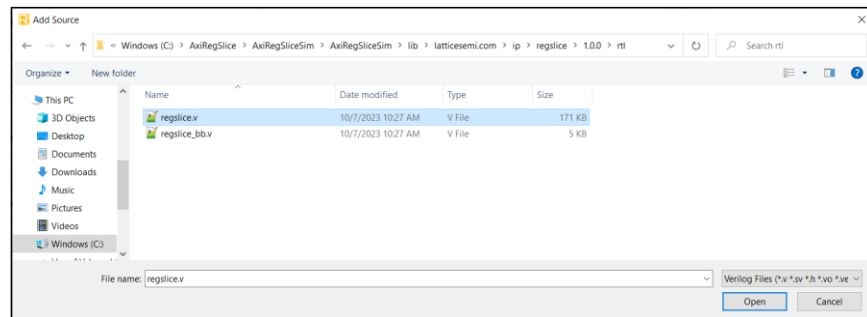

Figure 2.29. Adding Source RTL File
17. Navigate to the source RTL file, select and click **Open** as shown in Figure 2.29. Do not select the _bb version.